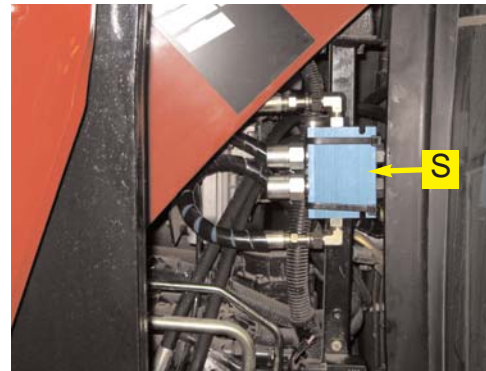

Figure 6a. Installed counter-balance valve.
- a. The counter-balance valve (S) will be installed outside of the left hood support. (Figure 6a.)
- b. Use the counter-balance valve as a template to drill two 5/16 holes in the left hood support. (Figure 6a.)
- c. Use the provided hardware in group (M) to secure the counter-balance valve. (Figure 6a.)